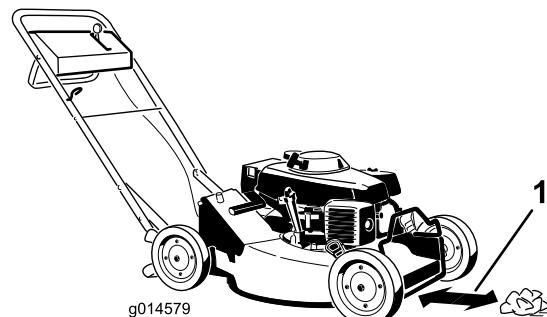

Figure 20
4. Set the ground speed selector to the Neutral (N) position.
5. Take a half sheet of newspaper and crumple it into a ball small enough to go under the deck (about 3 inches or 76 mm in diameter) as shown in Figure 20.
6. Place the ball of newspaper 5 inches (12.7 cm) in front of the machine (Figure 20).
- Place the ball of newspaper 5 inches (12.7 cm) in front of the machine (Figure 20).